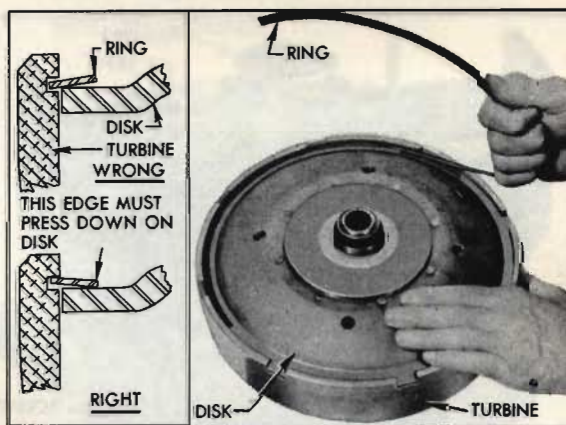

Fig. 16. Installing disc retaining ring
11. To allow the retaining ring to enter the groove in the first turbine, start one end of the ring, then twist the ring upward as shown in Fig. 16. This will lay the ring flat on the disc to permit the ring to be progressively entered all the way around.